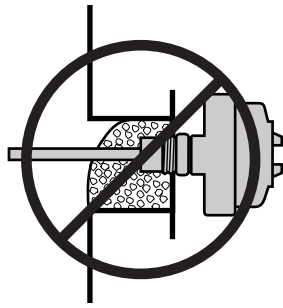

Figure 2
- Avoid mounting the sensor in a recess where build-up could dampen the vibration. See Figure 2.